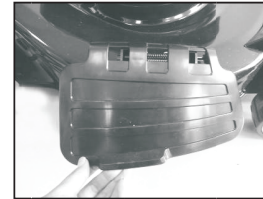

Fig. 10A
3. Lift sideward flap for side discharge. (Fig.10A)